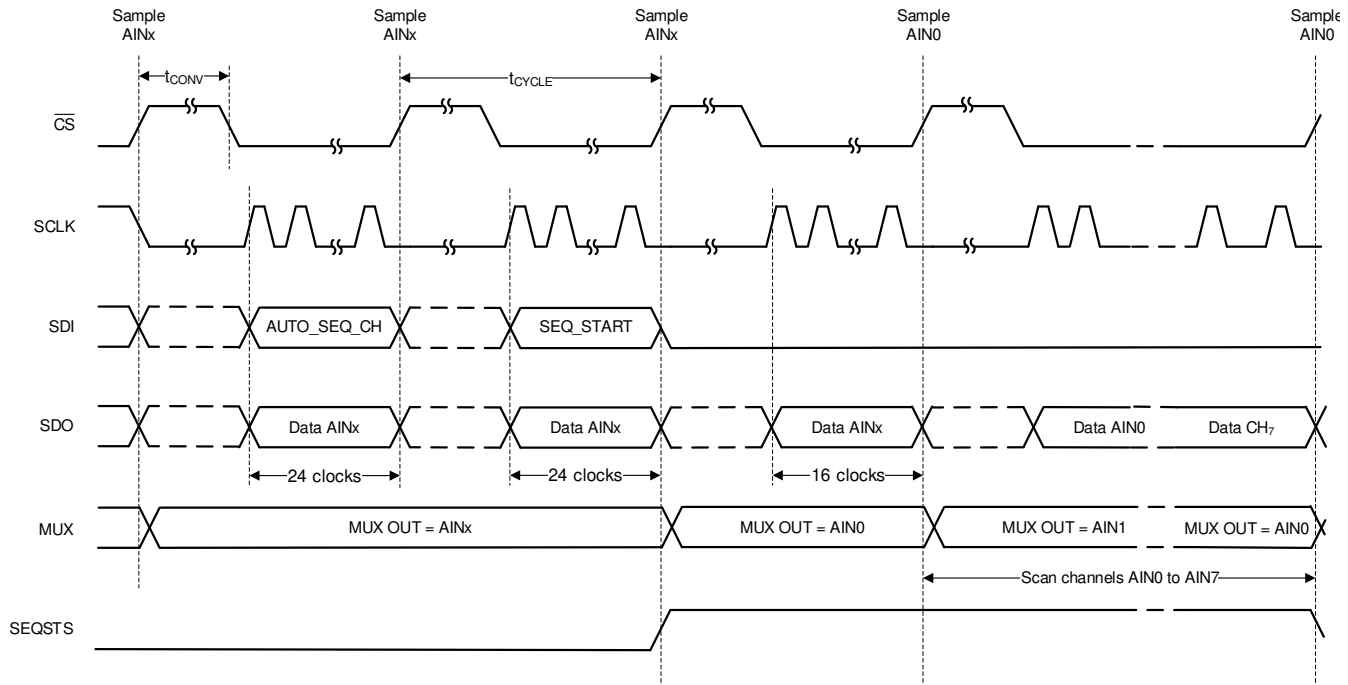
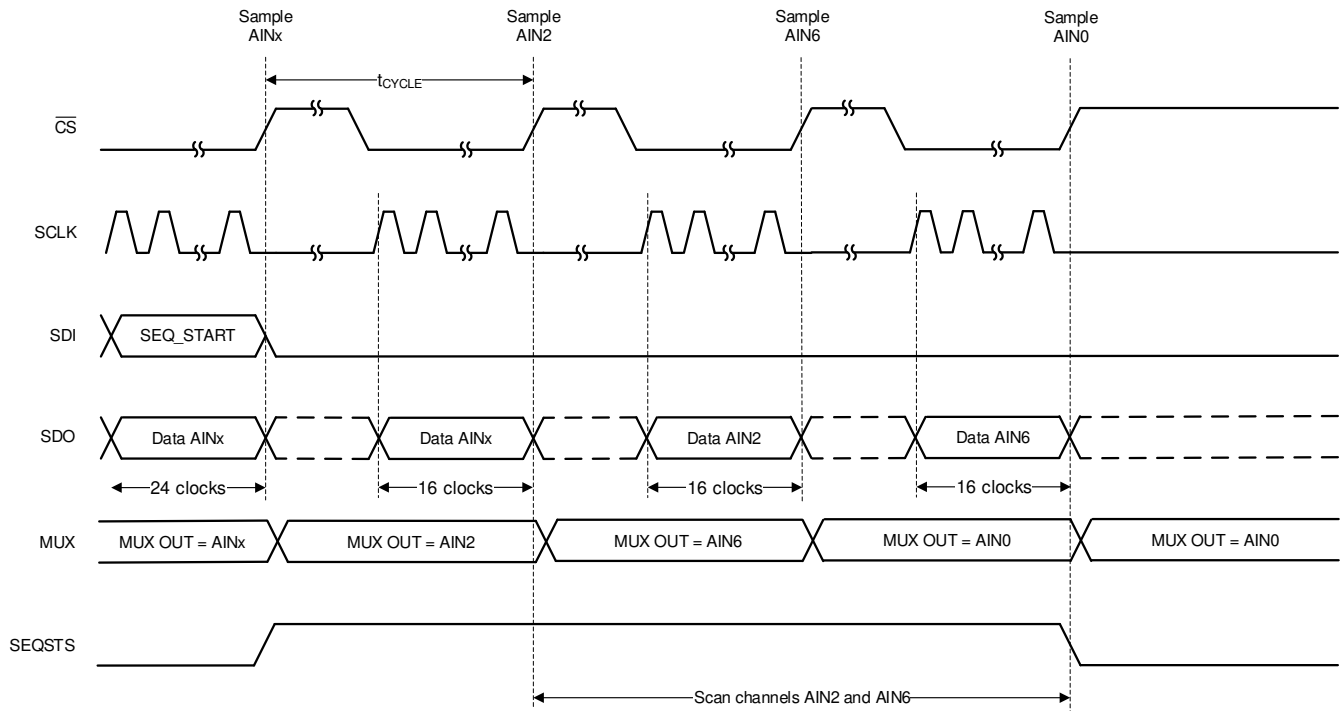

Figure 6-14. Starting a Sequence in Auto Sequence Mode
Figure 6-15. Example: Scanning Channels 2 and 6 in Auto Sequence Mode
In auto sequence mode, the internal channel sequencer selectively scans channels from AIN0 through AIN7 in ascending order. To select auto sequence mode, configure SEQ_MODE to 10b in the DEVICE_CFG register using a 3-byte register access. Enable one or more channels among AIN[7:0] by configuring the AUTO_SEQ_CFG1 register. By default all analog input channels are enabled. After enabling the desired channels, start the sequence by setting SEQ_START to 1b. The ADC auto-increments through the enabled channels after every $\overline{CS}$ rising edge. Configure SEQSTS_CFG bit to 1b in SDO_CNTL4 register to indicate sequence status on SDO-1/SEQSTS pin. When SEQ_START is set to 1b, the SDO-1/SEQSTS pin is at logic 1 as shown in Figure 6-14 until the last channel conversion frame is complete. After the last enabled channel conversion is complete, channel AIN0 is selected and SDO-1/SEQSTS is in a high-impedance state.
As an example, Figure 6-15 depicts a timing diagram for when the device is scanning AIN2 and AIN6 in auto sequence mode. When AIN6 is converted, SDO-1/SEQSTS is Hi-Z and AIN0 is selected as the active channel. At the end of sequence, if more conversion frames are launched the device returns valid data corresponding to AIN0.
- Configure the AUTO_SEQ_CFG1 register. In Figure 6-15, AUTO_SEQ_CFG1 = 0x44.
After configuring the channel scanning order, start index, and stop index, initiate the scanning by setting the SEQ_START bit to 1b. The ADC scans through the enabled channels after every $\overline{\text{CS}}$ rising edge as defined by the channel scanning order. When SEQ_START is set to 1b, the SDO-1/SEQSTS pin is pulled high until the last channel conversion frame is complete, as described in Figure 6-14. As illustrated in Figure 6-15, channel AIN0 is selected and SEQSTS/SDO-1 goes to Hi-Z after the last enabled channel conversion is complete.
As an example, Figure 6-15 provides a timing diagram for when the channel configuration is set as in Table 6-5. When AIN6 is converted, SEQSTS/SDO-1 goes to Hi-Z and AIN0 is selected as the active channel. If more conversion frames are launched at the end of the sequence, the device returns valid data corresponding to AIN0.
- Configure the CCS_START_INDEX and the CCS_END_INDEX registers. In Figure 6-15, CCS_START_INDEX = 0 and CCS_STOP_INDEX = 1.
- Configure the CCS_SEQ_LOOP register to 1 to indefinitely loop the sequence. In Figure 6-15, the CCS_SEQ_LOOP register = 0b.